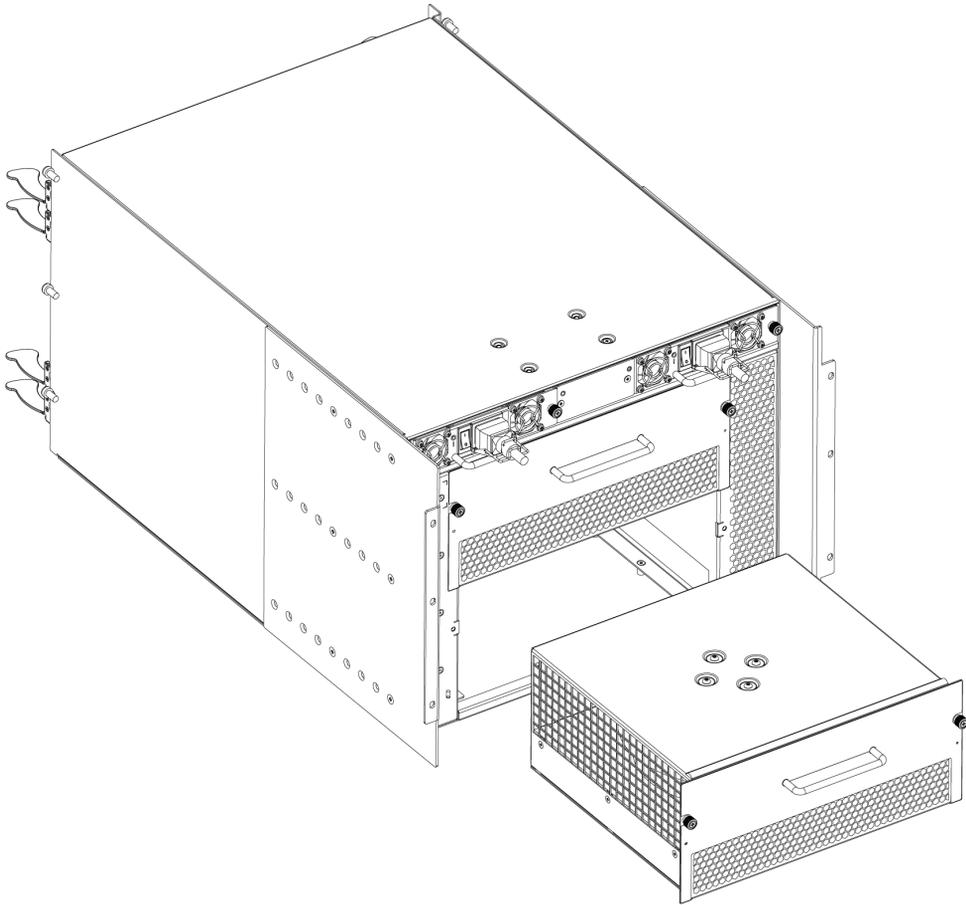

Figure 25 RRP: Blower assembly
2. Use the screwdriver to loosen the captive screws at the left and right of the blower assembly as shown in Figure 25 on page 115.